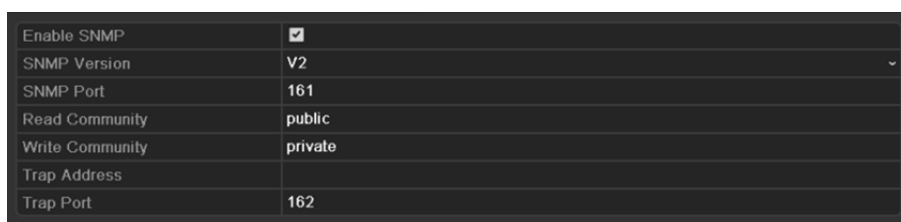

Figure 11-6 SNMP Settings Interface
Step 2 Select the **SNMP** tab to enter the SNMP Settings interface, as shown in Figure 11-6.